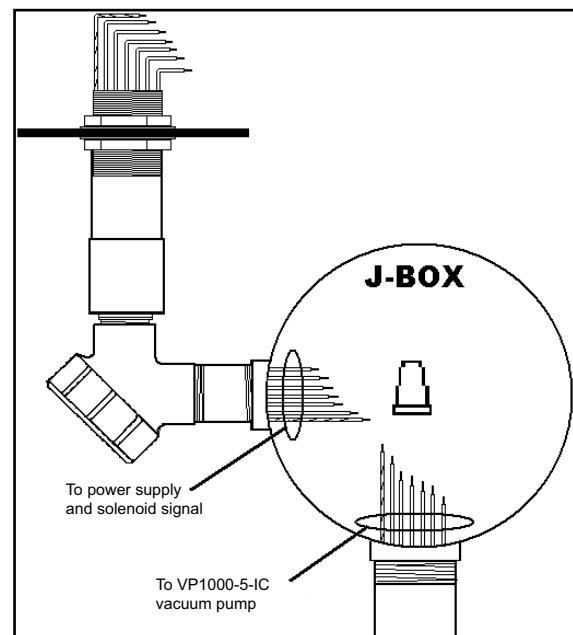

Figure 10: Junction Box Wiring
2. Install the Potted Conduit Assembly in an available barrier knockout (Figure 10). The potted conduit assembly is used for the electrical conduit transition from the hazardous area into the electronic area where the VP1000-5-IC will be interfaced with existing dispenser electronics.